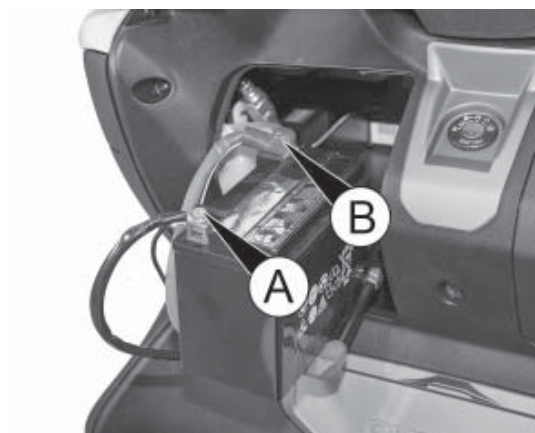

fig. 10
- Disconnect terminal A fig. 10 (negative) from the battery, then terminal B (positive)
- To reinstall the battery perform the same procedure in reverse, ensuring you first connect terminal B fig. 10 (positive), followed by the negative terminal A fig. 10.